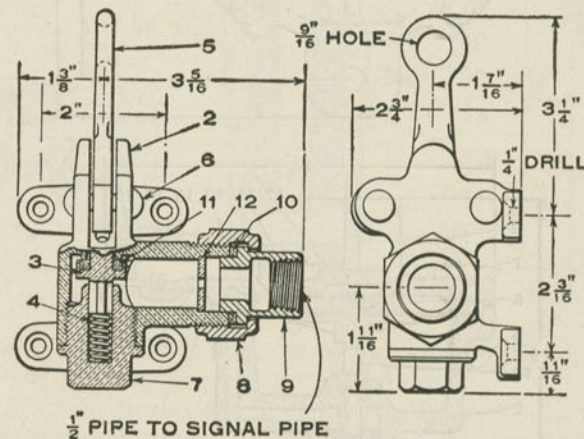

Fig. 464. Car Discharge Valve.
A. The discharge valve (Fig. 464), signal cord and signal pipe and connections (Fig. 463).